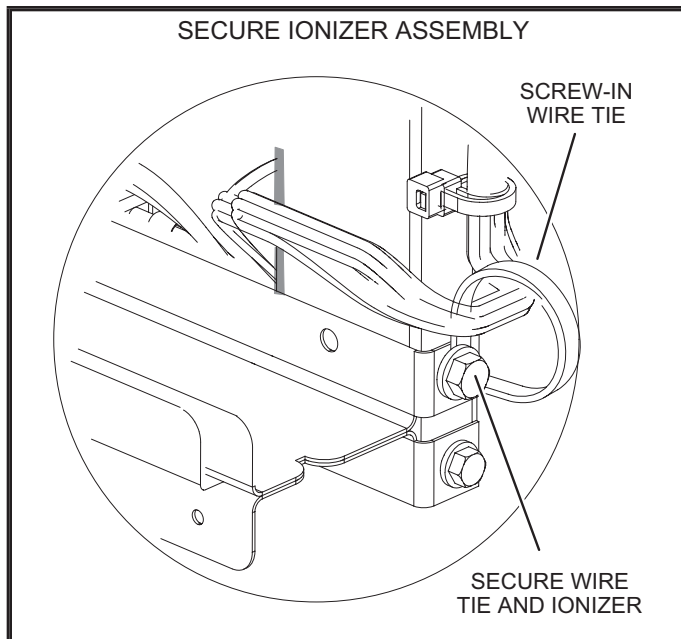

FIGURE 5
- 4 - Using the provided screw, secure a screw-in wire tie where the bottom filter rack screw was removed. See FIGURE 5.
- 7 - Using the provided screw, secure a screw-in wire tie where the top filter rack screw was removed. See FIGURE 5.